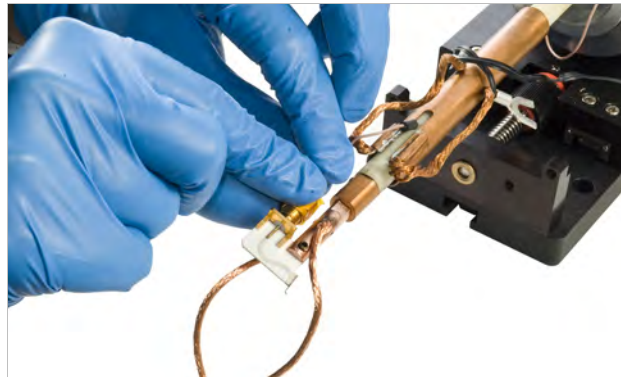

FIGURE 3-23 Disconnect the SMA
- Disconnect the SMA connector. The strain relief to the SMA connector (on the cryogenic coaxial cable) must be held in place with tweezers or your fingers while removing the SMA plug (FIGURE 3-23).